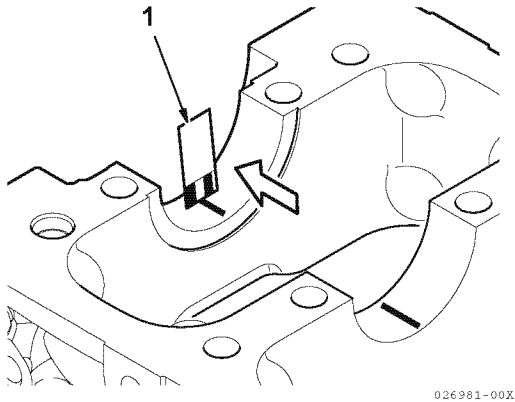

Figure 6-56
9. Compare the width of the flattened PLASTIGAGE (**Figure 6-56, (1)**) to the graduation marks on the package. The mark that most closely matches the width of the flattened PLASTIGAGE will indicate the bearing oil clearance. Record the measurement. See *Crankshaft* on page 6-6 for clearance specifications.